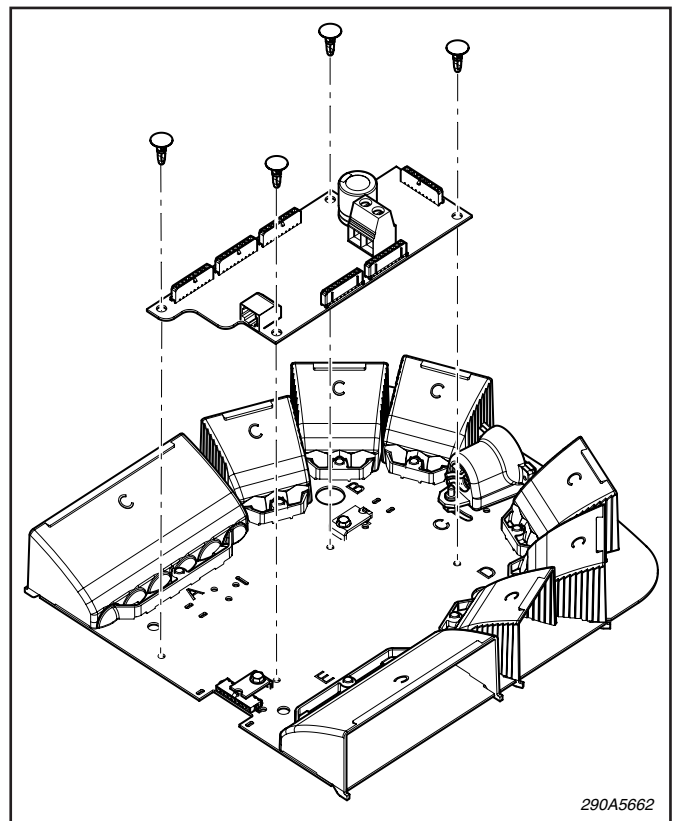

Figure 7.
F. PCB Controller Replacement (see figure 7) and Halogen / LED Head Fuse Access.